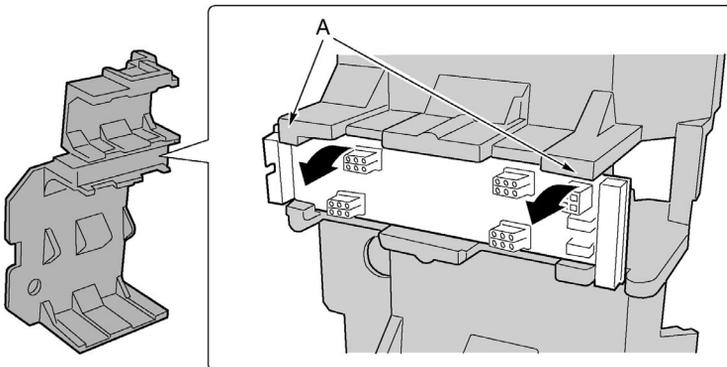

Figure 55 - Removing a fan distribution board
- 4 Gently press outward on two corners of the foam (Figure 55, A) to spread open the fan distribution board slot in the foam fan assembly, rotate the edge of the board free, and lift the board out of the foam air baffle.